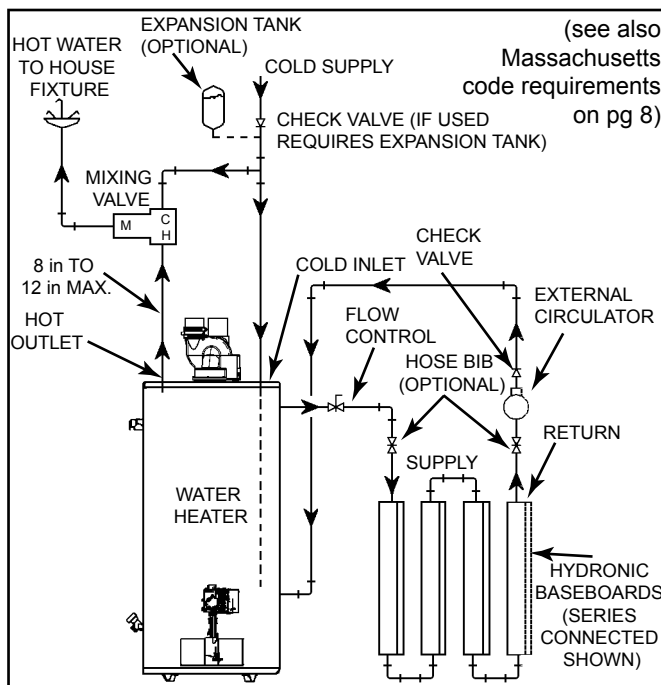

Figure 23
- B. A hydronic baseboard (finned tube) loop/In floor heating (Figure 23).